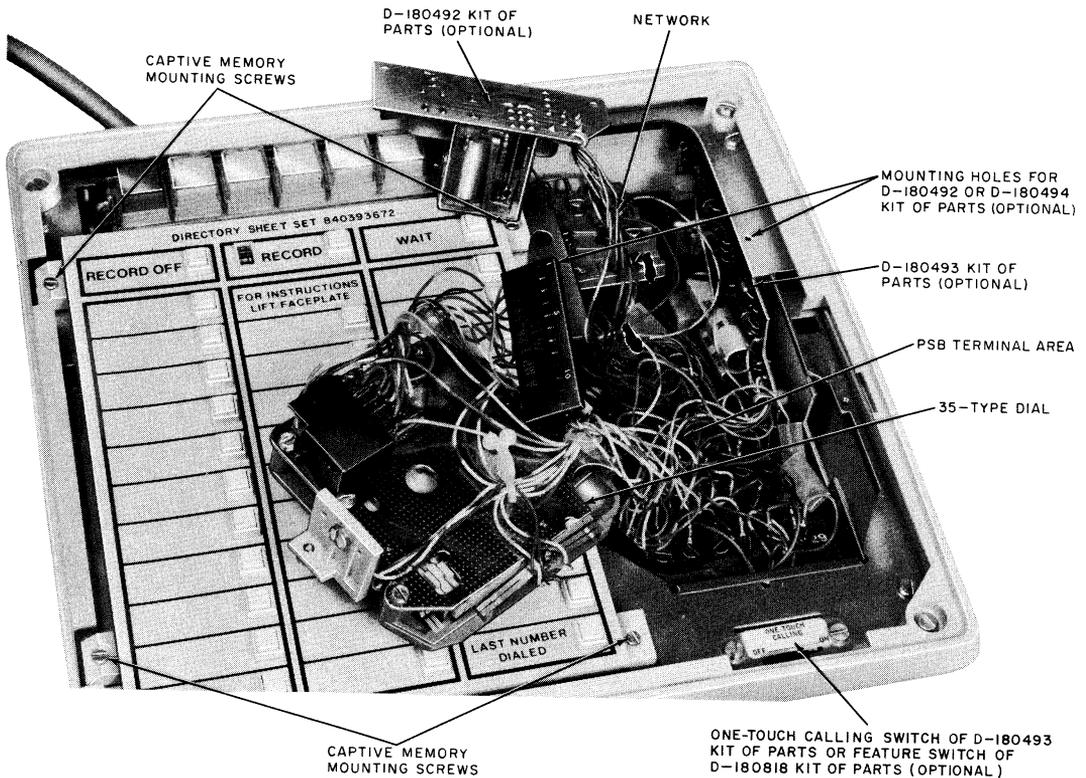

Fig. 4—2872A2M Telephone Set—Dial Removed To Show Terminal Area
- (1) Proceed as described in paragraph 3.16.
- (2) Make connections per the appropriate Tables, B through E.
- (3) Mount the kit assembly to the chassis with the screws provided (Fig. 4). Beveled corner of printed wiring board (PWB) should be located at lower right corner.
- (1) Remove the housings (paragraph 3.21), and access PSB terminal board (paragraph 3.17).
- (2) Insert the board assembly from the back of the set and locate as shown in Fig. 4, such that the two tabs on the board assembly fit into the slots in the bottom of the chassis.
- (3) Lock the board into position by inserting the self-threading screw through the right side of the chassis.
- (4) Mount the one-touch calling switch below the dial with the two screws provided.
- (1) Proceed as described in paragraph 3.17.
- (2) Make connections per Table G.
- (3) Mount the kit assembly to the chassis with the screws provided (Fig. 4).
- (1) Remove faceplate (paragraph 3.19).
- (2) Loosen the captive screw at the bottom of the cover around the dial and remove the cover.
- (3) Disengage the four captive memory mounting screws (Fig. 4).
- (6) Mount switch below dial using the two screws provided (Fig. 4).
- (b) Under the faceplate, inside the set (Fig. 4 and 5):
- Power supply (PSB) terminal area (Fig. 4)
- Network (Fig. 4)
- Options (Fig. 4):